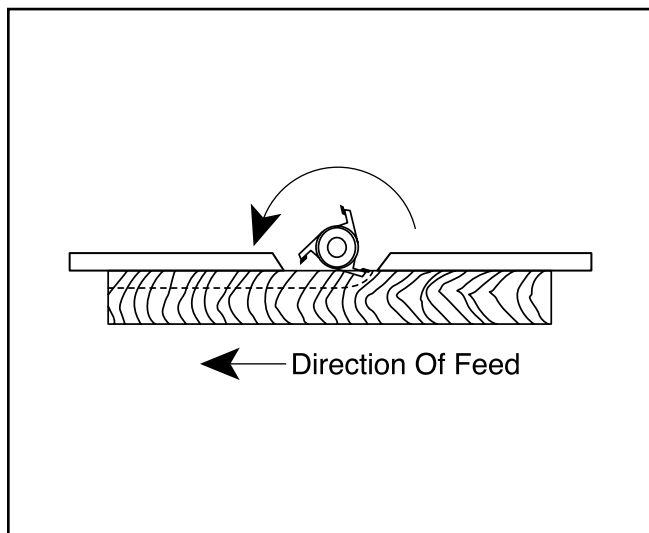

Figure 19. Partial feed fence adjustment.
4. Run a test piece through the shaper. See **Figure 19**.